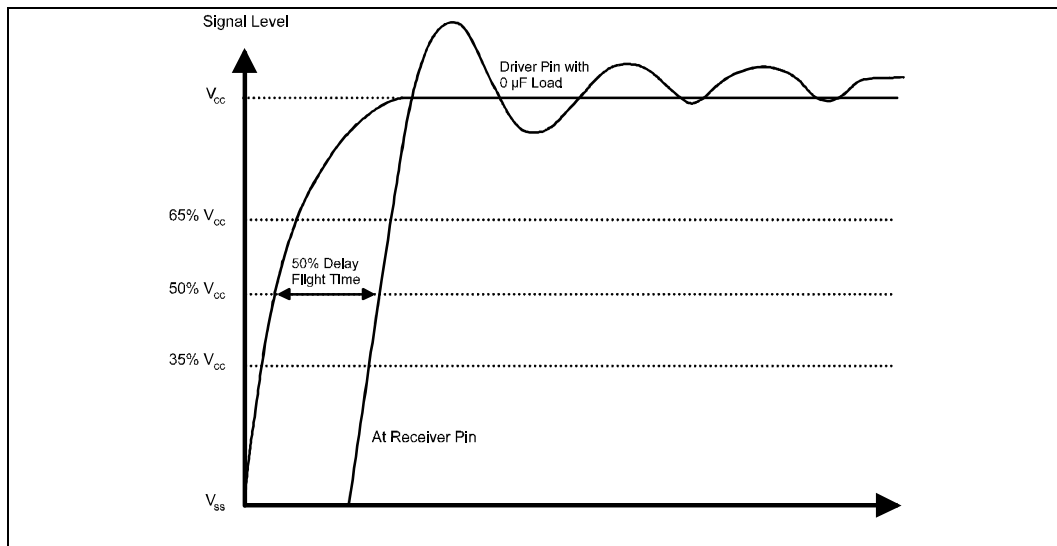

Figure 11. 50 Percent V_{CC} Measurement of Flight Time
11. This is a flight time specification, that includes both flight time and clock skew. The flight time is the time from where the unloaded driver crosses 1.5V (50% of min V_{CC}), to where the receiver crosses the 1.5V level (50% of min V_{CC}). See Figure 11. The minimum flight time minus the clock skew must be greater than zero.